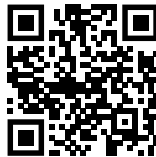

Fig. 86
- ▶ Åpne Liebherr SmartMonitoring Dashboard. (se Fig. 86)